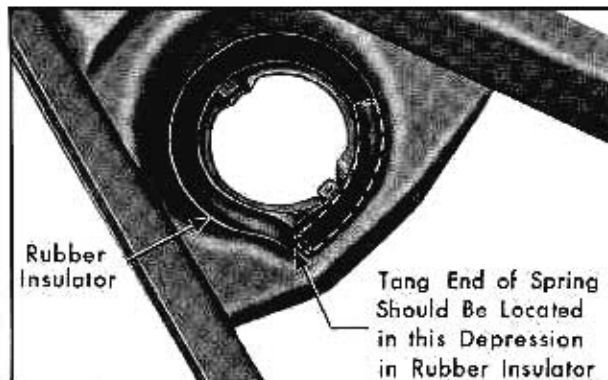

Fig. 6-23 Spring Location in Lower Seat
4. Tape upper rubber insulator to top (flat end) of spring and install spring in upper seat in cross-member. Rotate spring so that lower tapered end will fit in formed depression, Fig. 6-23, in insulator when lower suspension arm is raised into position.